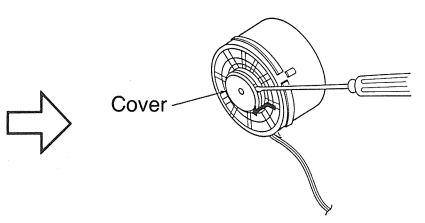

Fig. 3
3. Remove the cover (shown in Fig. 3).